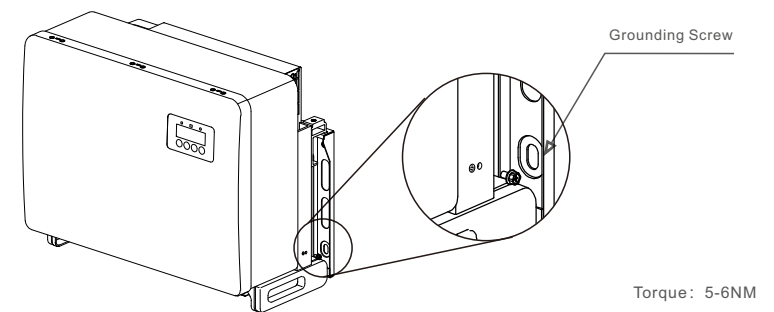

Figure 3.17 Fixed cable
- 6) Connect the grounding cable to the grounding point on the heat sink, and tighten the grounding screw, Torque is 5-6Nm (see figure 3.17).